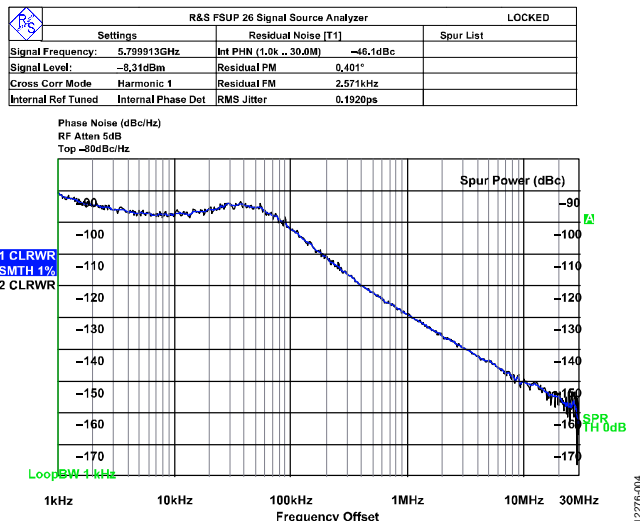

Figure 4. Fractional-N Phase Noise and Spur Performance,  $VCO_{I/O}$ ,  $VCO_{OUT} = 5800$  MHz
11. Figure 4 shows a phase noise plot of the SMA VCO\_I/O,  $VCO_{OUT} = 5800$  MHz.